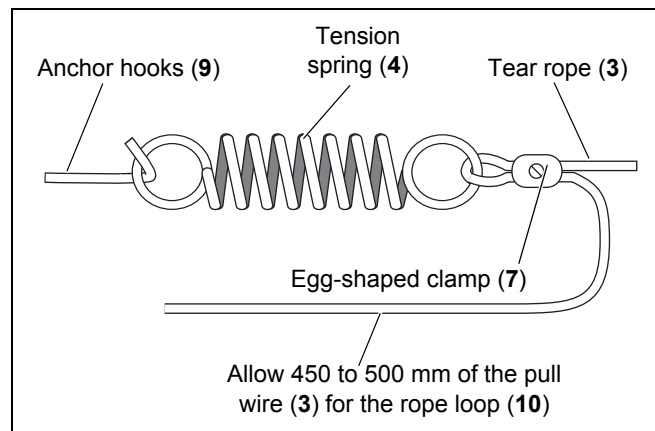

Fig. 5-4: Attaching the tear rope onto the tension spring
4. Hook the tensions springs (4) onto the anchor hooks (9)(see fig. 5-4).
5. Thread the end of the tear rope (3) through the eye of the tension spring (4). Pull the tear rope (3) about 450 to 500 mm through the eye, so that it can form a rope loop (10) at that end *to complete* the mounting procedure (see fig. 5-4).